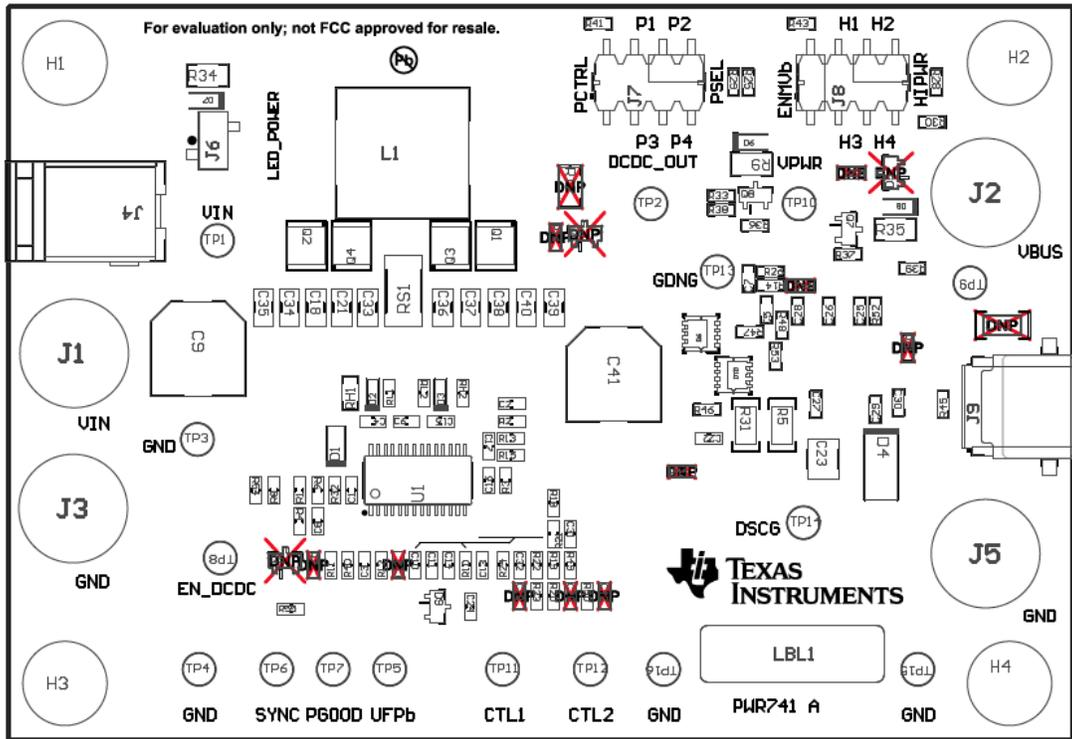
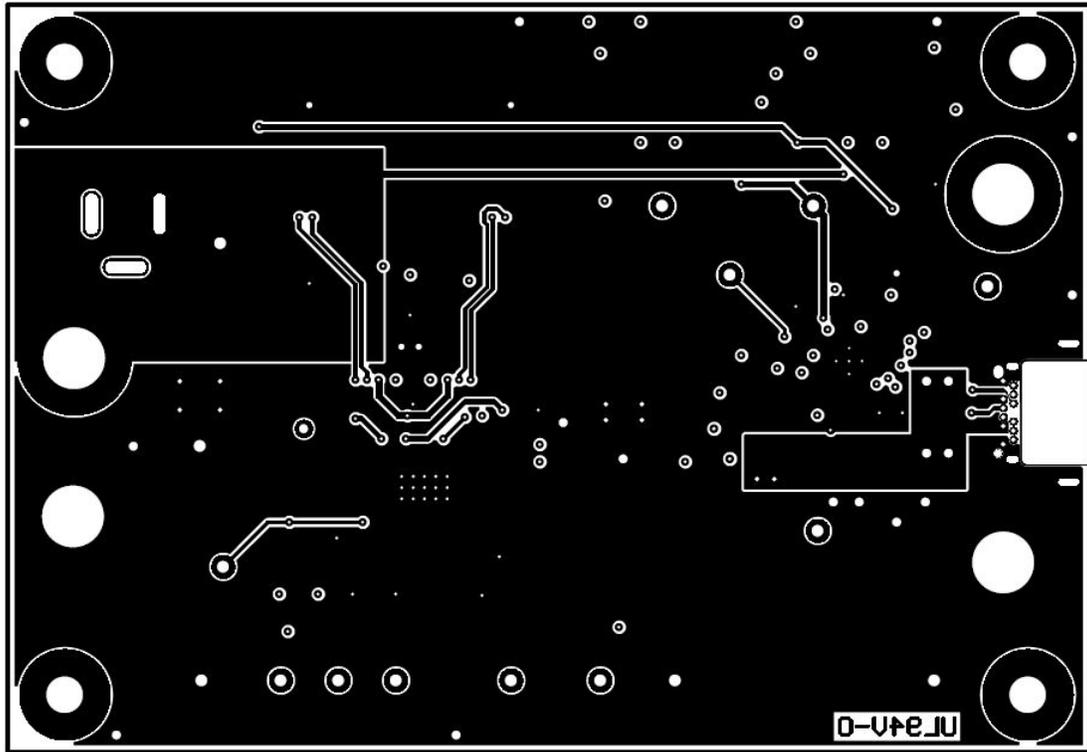

Figure 39. Top Side Placement
Figure 43. Bottom Side Routing
Figure 39 through Figure 43 show component placement and layout of the EVM.
- **C28:** Place close to pin 20 (VPWR) and connect with low-inductance traces and vias according to Figure 39.
- **C25:** Place close to pin 13 (DVDD) and connect with low-inductance traces and vias according to Figure 39.
- **C26:** Place close to pin 16 (VAUX) and connect with low-inductance traces and vias according to Figure 39.
- **C27:** Place close to pin 1 (VTX) and connect with low-inductance traces and vias according to Figure 39.
- **CRX:** Place C29 and C30 inline with the CC1 and CC2 traces as shown in Figure 39. These should be placed within one inch from the USB Type-C connector. Minimize stubs and tees from on the trace routes.
- **RS:** Place R31, as shown in Figure 39, to facilitate uninterrupted power flow to the USB Type-C connector. Orient RS for optimal Kelvin sense connection and routing back to the TPS25740B. In high-current applications where the power dissipation is over 250 mW, provide an adequate copper feed to the pads of R31.
- **RG:** Place R47 and R53 near Q6 and Q10 as shown in Figure 39. Minimize stray leakage paths as the GDNG sourcing current could be affected.
- **RSLEW and CSLEW:** Place R48 and C5 near R47 and R53 as shown in Figure 39.
- **RF and CF:** When required, place R46 and C22 (as shown in Figure 39) to facilitate the Kelvin sense connection back to the TPS25740B.